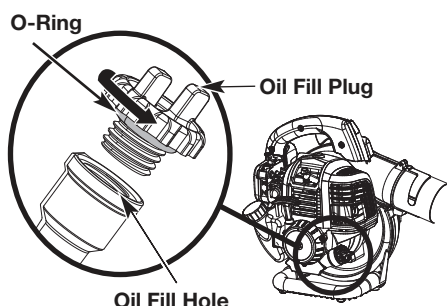

Fig. 4
2. Unscrew the oil fill plug (Fig. 4).
3. Pour the entire container of oil into the oil fill hole (Fig. 4). **DO NOT** overfill. Refer to *Checking the Oil Level*.
NOTE: Make sure the O-ring is in place on the oil fill plug (Fig. 4).